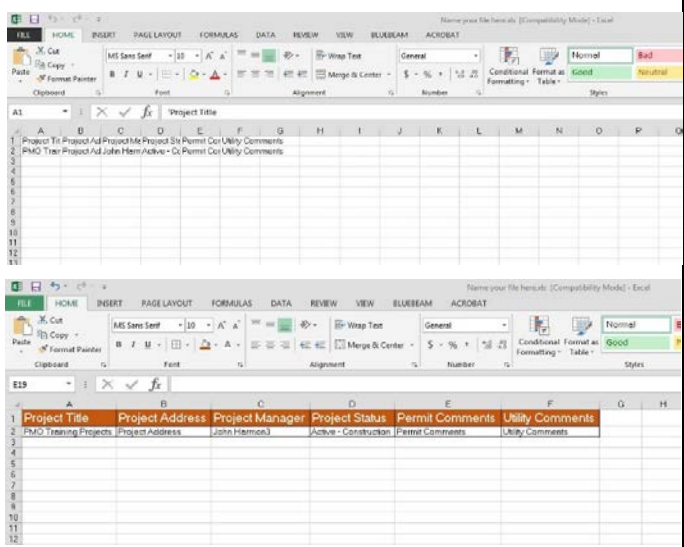

Figure 8
Step 8 - Your query is exported from Prolog as an un-formatted Excel workbook. You will need to format the worksheet for the query in Excel in order to make it presentable. Figure 8 shows the raw exported query in Excel (top) and the manually formatted version in Excel (bottom). Once you have formatted the worksheet to be presentable in Excel you can save the query as a PDF for dissemination or leave it as an Excel document for sorting or filtering.